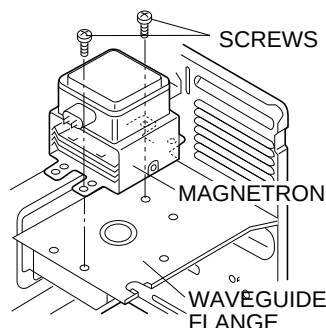

Figure C-1. Magnetron replacement
1. Re-install the magnetron to waveguide flange with the two (2) screws diagonally as shown in Figure C-1.
2. Re-install the chassis support to oven cavity front plate and magnetron with the two (2) screws.